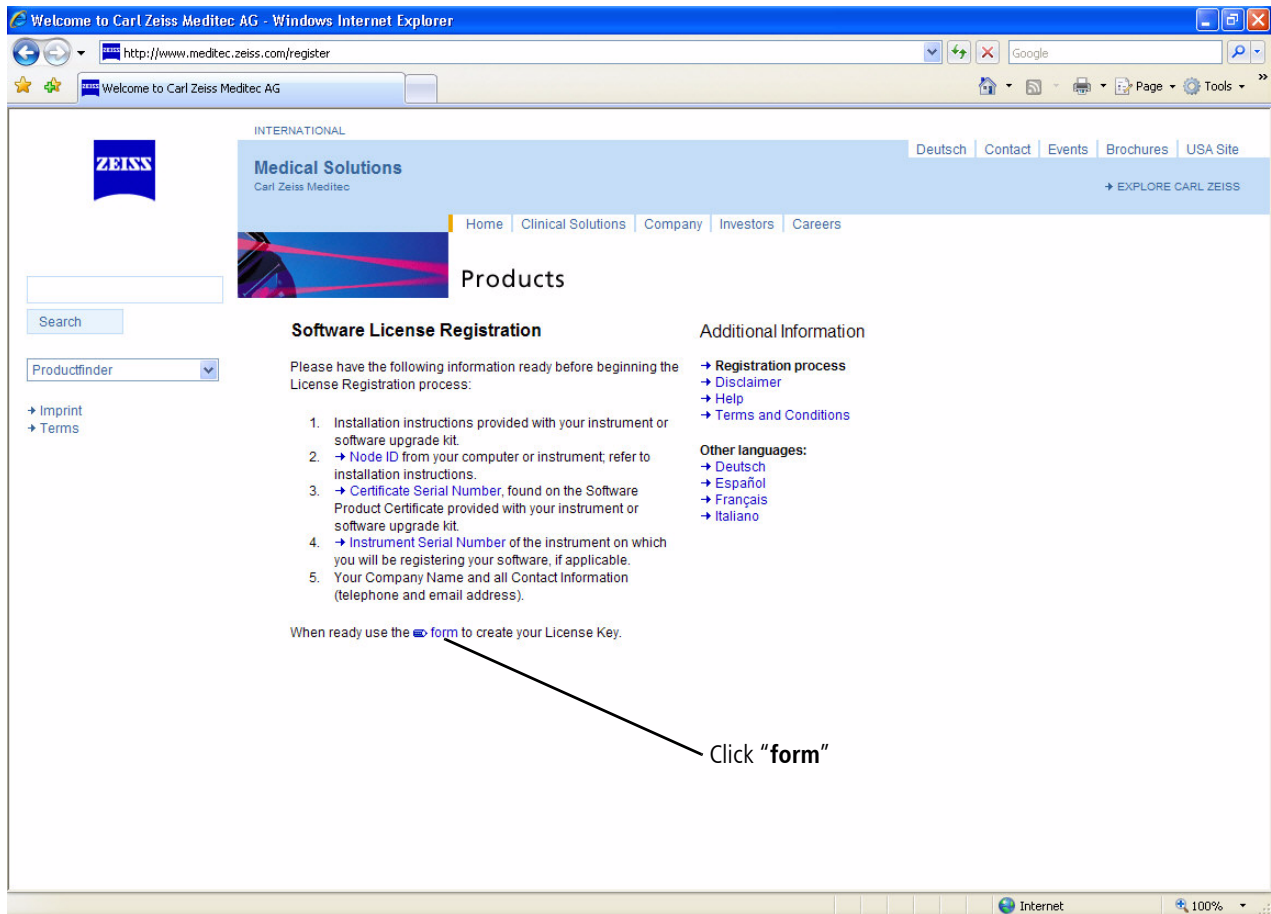

Figure 14: Carl Zeiss Meditec Software License Registration Page on the Internet
6. Go to the bottom of the page, where it says: "When ready use the form to create your License Key" and click on the word "form" (see Figure 14 below).